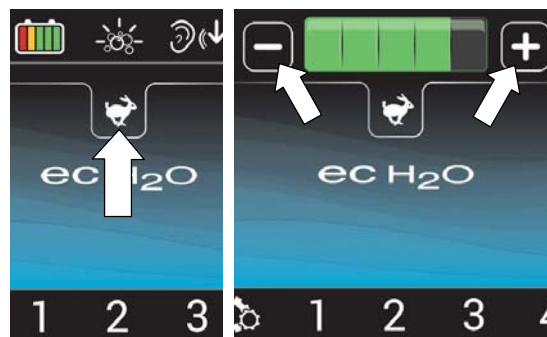

FIG. 50
5.  Press the maximum scrub speed icon to display the maximum speed scale (Figure 50). Press (+) symbol to increase the maximum scrub speed. Press the (-) symbol to decrease the maximum scrub speed. Only accessible in Supervisor Mode.